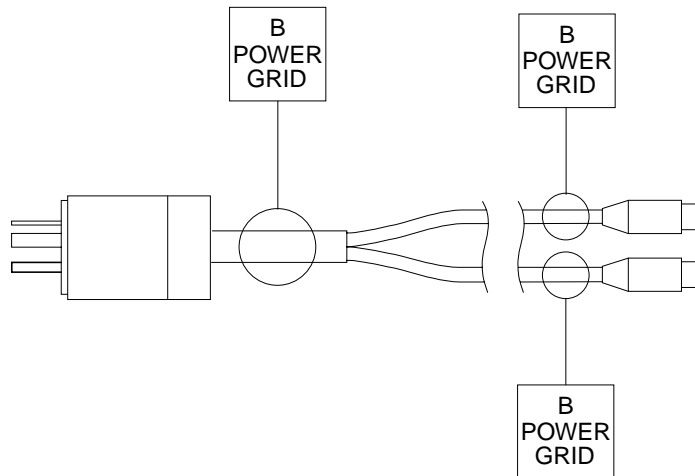

FIGURE 16 AC Power Supply Cable Assembly Labels
8. Attach the “B Power Grid” labels from the label set to all four AC power supply cable assemblies (FIGURE 16).
Note – “A Power Grid” labels are also provided and may be applied to the existing four AC power supply cable assemblies in the same location as shown for “B Power Grid” in FIGURE 16.